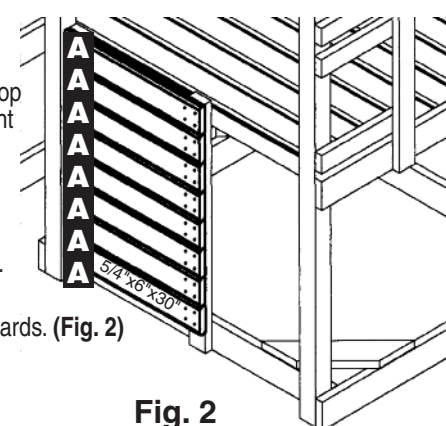

Fig. 2
3. Place first board flush with top of decking. Secure with eight #8 x 2 1/2" deck screws. (Fig. 2)
4. Install next board tight against first. Secure with eight #8 x 2 1/2" deck screws. (Fig. 2)
5. Repeat for the remaining boards. (Fig. 2)